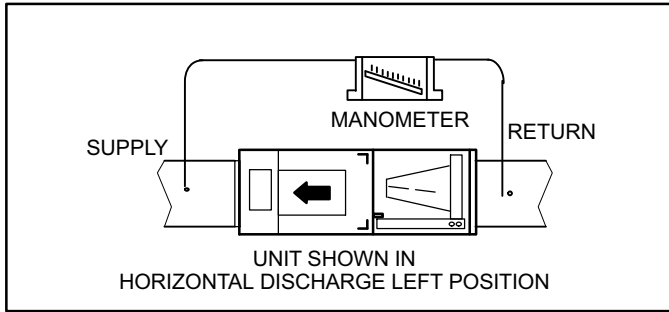

Figure 9. Static Pressure Test
1. Measure tap locations as shown in figure 9.